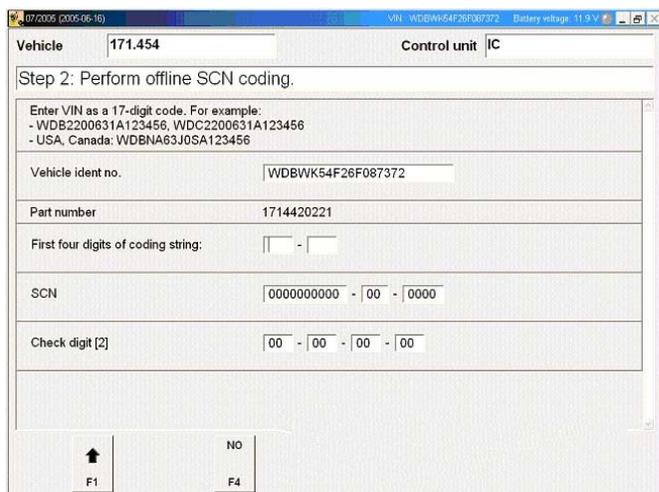

Figure 12
1. Input SCN Code, Coding string, and Check digit [2] manually, then Press 'F3' (Figure 12)